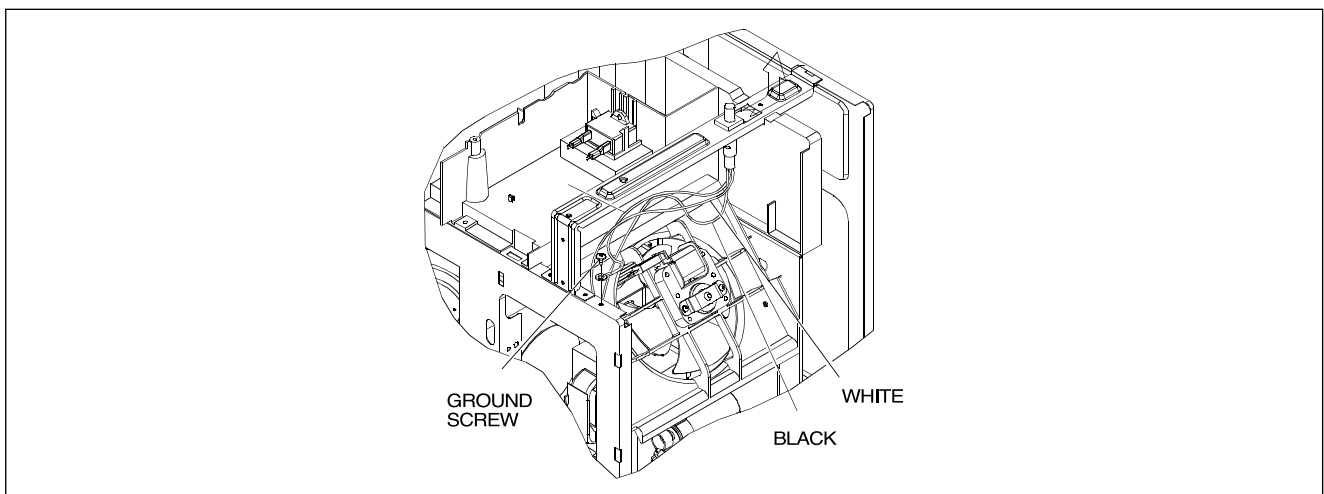

FIG. 16
4. Remove the power cord (see the replacing the powercord, Fig. 16)
2. Remove the vent grille, the wire protector and the cabinet from the microwave oven (See "Cabinet Removal"). Refer to FIG. 16 and the inset for the following steps: